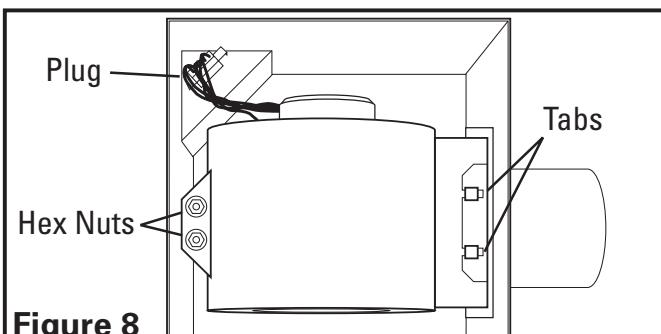
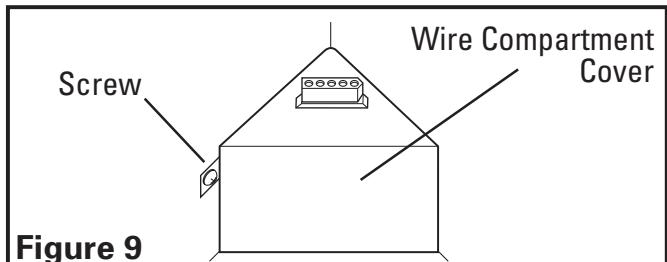

Figure 8
Figure 9
- 1b. **Internal Wire Compartment:** Using a 7/16" socket, remove the two hex nuts holding the blower assembly in place. Lift up on the assembly and slide it out of the tabs on the housing (**Figure 8**). Remove the wire compartment cover screw and place the cover in a secure place (**Figure 9**).